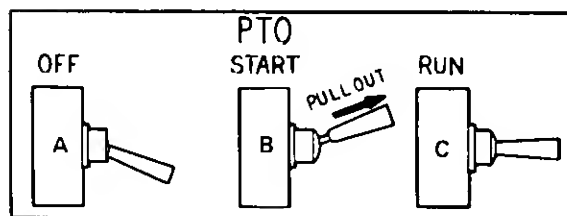

Figure 21
2. Flip the toggle switch to the "RUN" position. (See Figure 21.)
5. PTO switch must be in the "OFF" (A) position when shifting the tractor into reverse or the PTO will shut off automatically. To reengage the PTO, shift unit into neutral. Move PTO switch to "OFF" (A) position. Then pull knob out and lift up to "START" (B) position and release.